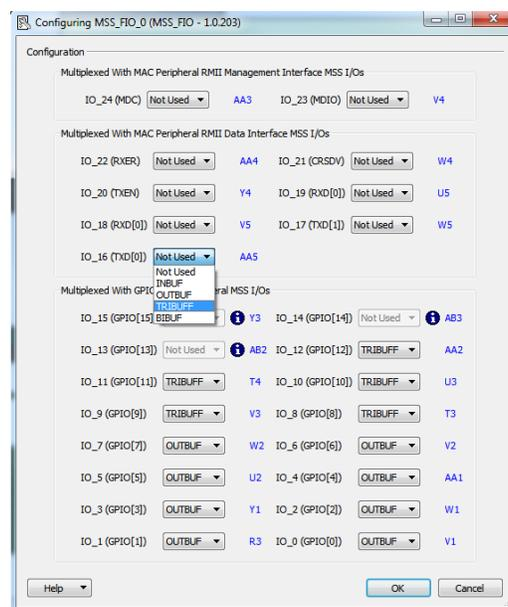

Figure 23 • Selecting TRIBUFF for I/O_16
3. Select TRIBUFF for IO_16 as shown in Figure 23.